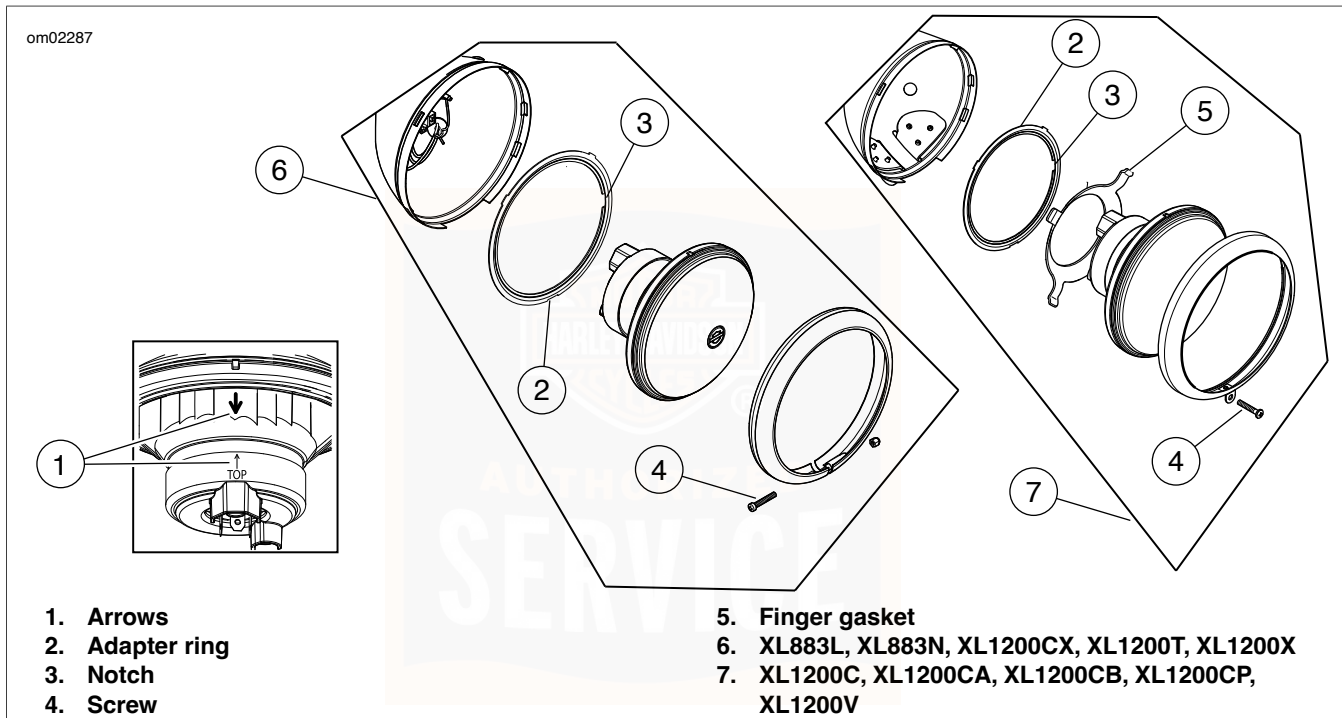

Figure 60. Headlamp Assembly
3. See Figure 60. Match the rubber boot TOP arrow to the reflector arrow (1). Fit the rubber boot over the spade terminals of the bulb. Press the air out of the boot to seal over the lens and the reflector assembly.
5. Verify that the adapter ring (2) is in place with the two tabs of the ring in the two bulges in the headlamp shell.
6. Match the single tab on the reflector to the notch (3) on the inside of the adapter ring.
7. **For Models XL1200C, XL1200CP, XL1200CA, XL1200CB, XL1200V:** Install rubber finger gasket (5).
9. **For Models XL883L, XL1200CX, XL1200N, XL1200T, XL1200X:** Install screw (4) and nut.